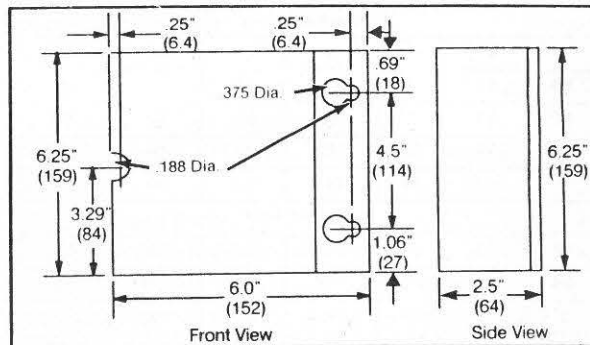

Figure 1. Dimension and Mounting Data.
3. Mount the controller in a vertical, upright position in the selected location. See Figure 1 for dimension and mounting details.